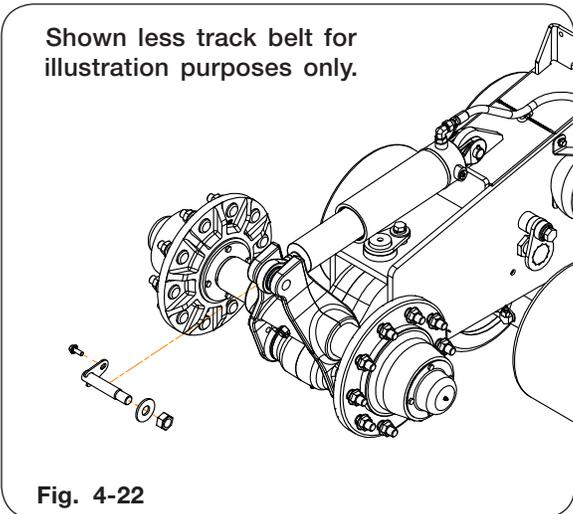

Fig. 4-22
10. Remove the hydraulic cylinder rod end retaining hardware. Retain hardware for reassembly. (Fig. 4-22)